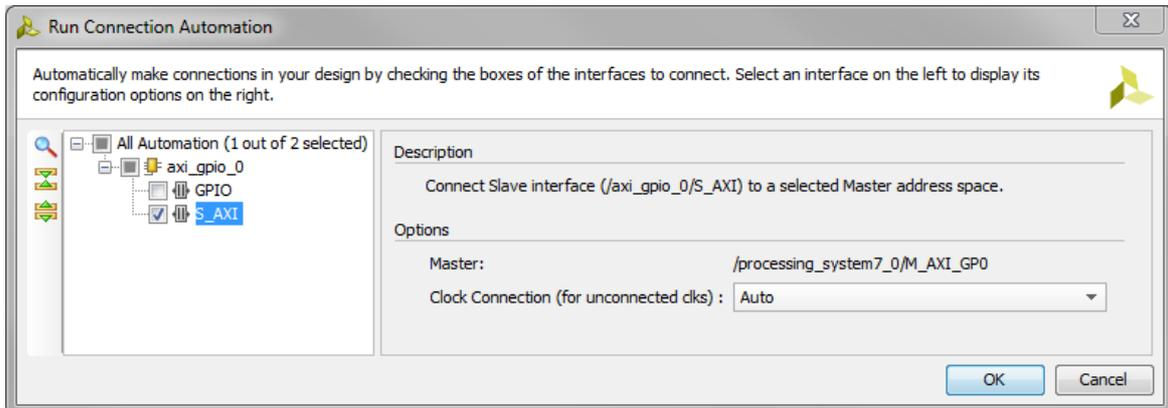

Figure 1.17: Run Block Automation - GPIO Block
- (g) Click **Run Connection Automation** from the *Designer Assistance* message at the top of the *Diagram* window and select `/axi_gpio_0/S_AXI`, as shown Figure 1.17.